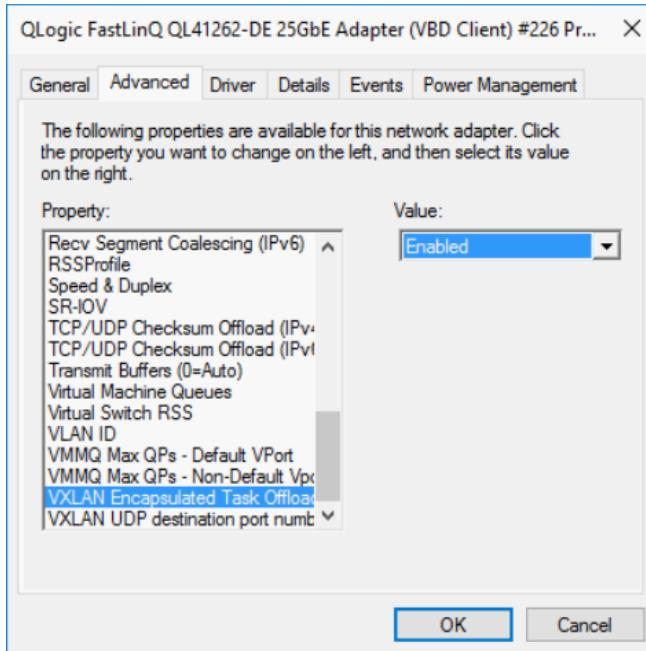

Figure 13-17. Advanced Properties: Enabling VXLAN
2. On the Advanced Properties page (Figure 13-17) under **Property**, select **VXLAN Encapsulated Task Offload**.